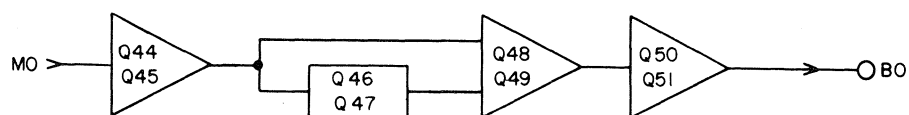

Figure 7. Minus Output Amplifier
4.6 MINUS OUTPUT AMPLIFIER (See Figure 7)